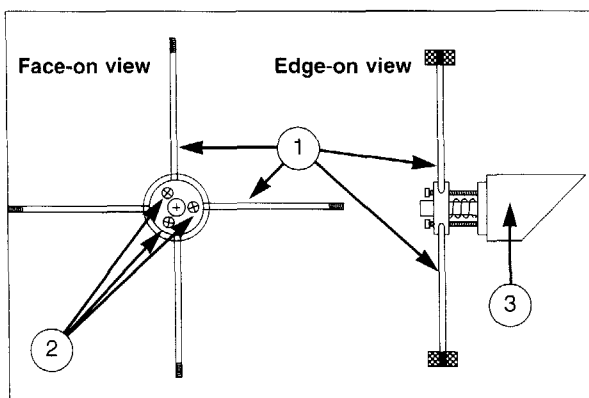
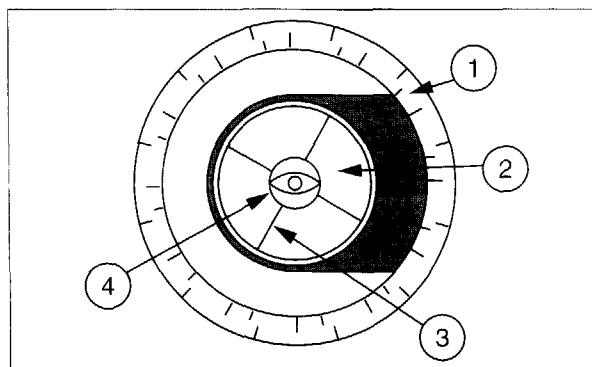

Fig. 13: Secondary Mirror Assembly. (1) Spider Vanes; (2) Tilt screws; (3) Secondary Mirror Holder.
Fig. 14: Correct Collimation. (1) Round Edge of Focuser Drawtube; (2) Secondary Mirror; (3) Spider vanes; (4) Eye.
To inspect the view of the mirror collimation, remove the eyepiece and look down the focuser drawtube. The round edge of the focuser drawtube (1, Fig. 14) will frame the reflections of the primary mirror with the secondary mirror (2, Fig. 1), the spider vanes (3), Fig. 14, and your eye (4, Fig. 14). Properly aligned, all of these reflections will appear concentric (*i.e.* centered) as illustrated in Fig. 14. Any deviation from the concentric reflections will require adjustments to the secondary mirror assembly (Fig. 13), and/or the primary mirror cell.
If the secondary mirror (1), Fig. 16, is centered in the drawtube (2), Fig. 16, but the primary mirror is only partially visible in the reflection (3), Fig. 16, the 3 hex screws located on the secondary mirror assembly (2), Fig. 13, must be unthreaded slightly to refine the tilt-angle of the secondary mirror until the entire primary mirror can be seen centered within the secondary mirror reflection. When the secondary mirror is correctly aligned, it will look like Fig. 17. (Note that the primary mirror is misaligned.)